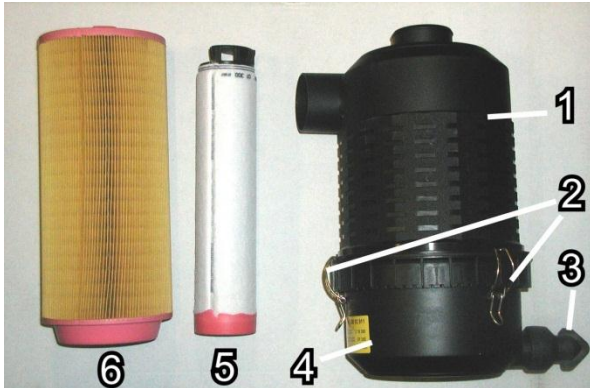

Fig. 5.3.6. Dry air cleaner. 1-Filter housing. 2- Latches. 3- Dust collector . 4- Cover. 5- Inner element. 6- Outer element.
Remove any accumulated dust from the dry air cleaner dust collector every 10 hours of operation, or daily in extremely dusty conditions (Fig. 5.3.6);
- remove the Cleaner cover (4 - Fig. 5.3.6) by releasing 3 latches (2 - Fig. 5.3.6) and carefully slide the element (6 - Fig. 5.3.6) out the filter housing,